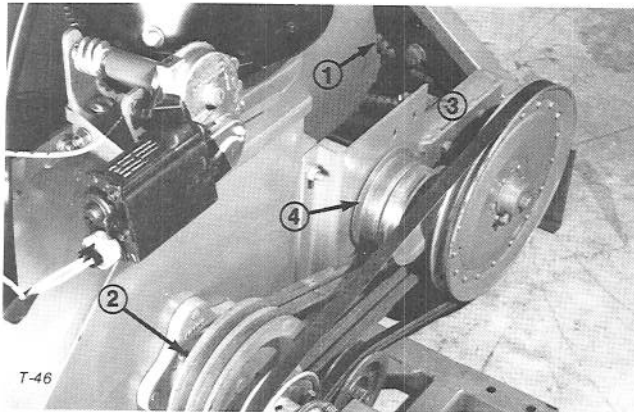

Figure 21
1. Lubricate the auger drive chain with SAE 30 engine oil after each use (Fig. 21).
2. Grease the impeller shaft bearing every 40 hours with No. 2 general purpose Lithium base grease (Fig. 21).
1. Remove shield and check tension. Belts should have 1/4 inch deflection when 5-6 lb. force is applied to center of belts (Fig. 21). If tension is correct continue operation. If tension is incorrect, proceed to item 2.
2. Loosen locknut securing idler pulley and push down on idler to move it downward in the mounting slot (Fig. 21). Adjust to proper tension and tighten locknut.
1. Measure deflection on the lower span of the chain (Fig. 21). If deflection is less than $1/4$ inch midway between the sprockets, continue operation. If deflection is more than $1/4$ inch, proceed to item 2.
2. Loosen adjusting bolt and slide idler downward until proper deflection is obtained (Fig. 21).